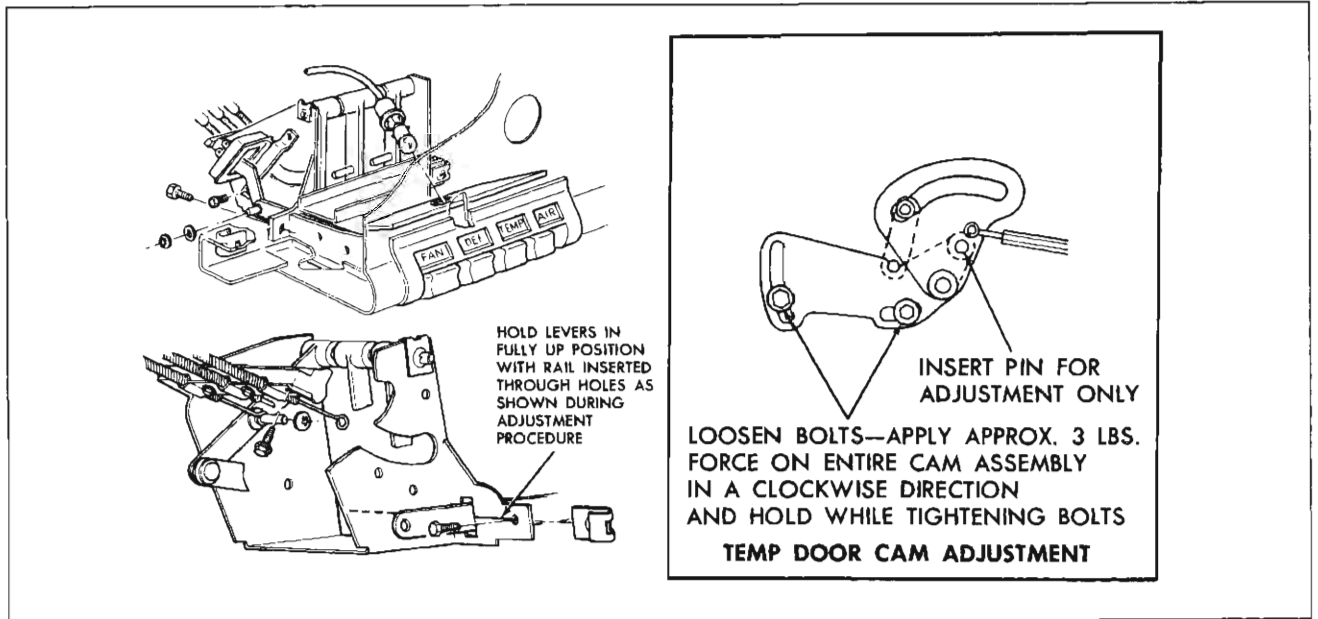

Fig. 50—Control Assembly Installation
The control assembly is attached to the dash reinforcement by two screws as shown in Fig. 50.
1. See Figure 50. With the cables attached to the control levers and the control knobs in the "up" position, insert a nail through the holes provided in the control assembly as shown.